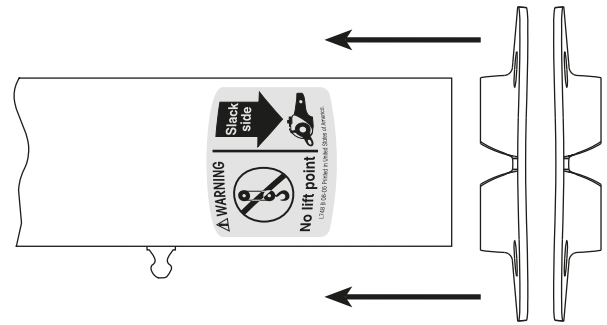

Figure 75: INTRAAX Install Brackets Back-To-Back
5. Arrange the two cam tube brackets back-to-back (Figure 75) and slide them onto the end of the cam tube assembly until they contact the suspension beam.